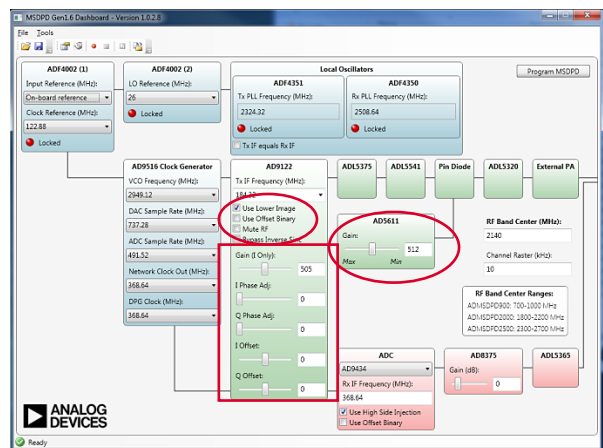

Figure 14. Tx Control
5. To optimize the image rejection and LO cancellation at the TX output, enter the **Gain (I Only)**, **I Phase Adj.**, **Q Phase Adj.**, **I Offset.**, and **Q Offset.** values included on the board into the appropriate fields in the **AD9122** block on the MSDPD Dashboard front panel (see Figure 14).